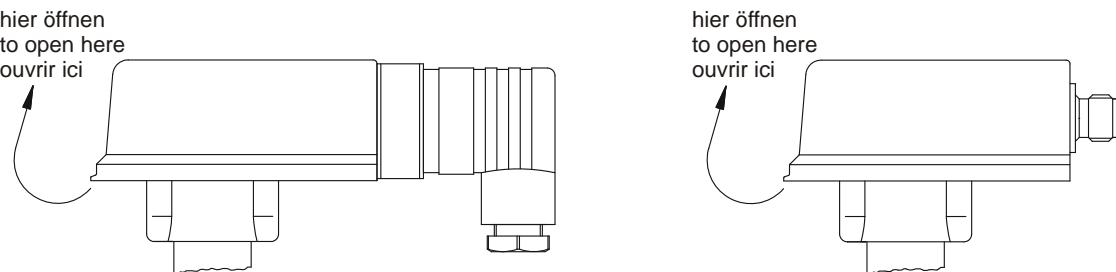

Fig.17
- ☞ In order to adjust the switching unit, open the cover of the switching head (→ Fig. 17) (not required for VK3...)